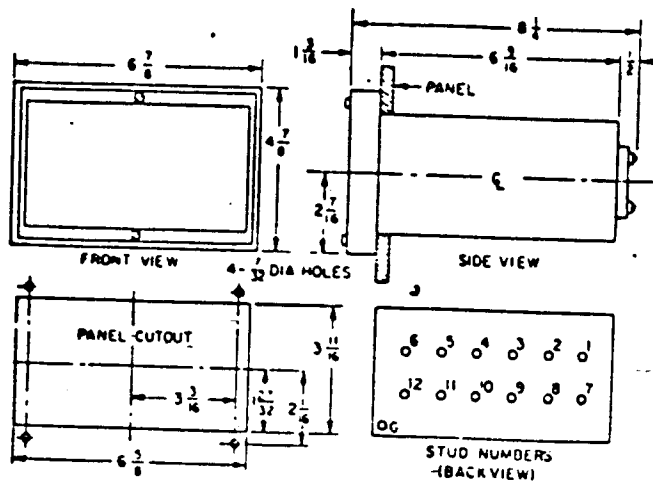

Fig. 1 - Relay Outline, Panel Drilling and Cutout
All connections to the relay are made at terminals located on the rear of the case and are clearly numbered from one (1) through the number twelve (12). (See Figure 1.)
For outline dimensions, panel drilling and cutout information, refer to Figure 1.
All CIRCUIT-SHIELD relays have metal front panels which are connected through printed circuit board runs and connector wiring to a terminal at the rear of the relay case. The terminal is marked "G" and is located as shown in Figure 1.